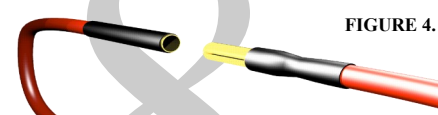

FIGURE 4.
3) Choose a wiring method for the motor and battery leads. Direct wiring uses no plugs and provides the best connection between the motor and the ESC. You can use Tekin 4.0mm Hi-Power bullet connectors (TT3054, Fig 4.) for easy motor removal. Battery connector choice is up to you, use the female plug on the battery and the male on the ESC and double check the polarity.